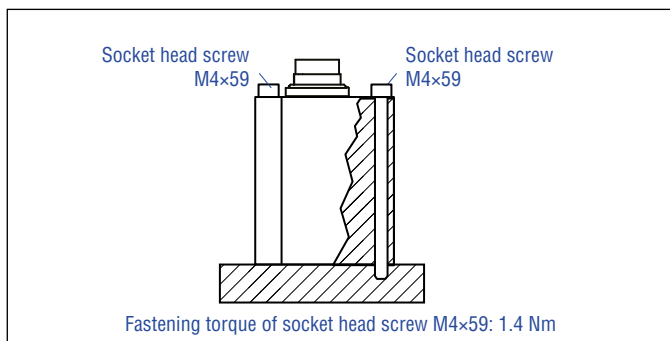

Fig. 14: Mounting with socket head screws M4×59
- Mount the sensor electronics housing by means of 3 non-magnetic socket head screws M4×59. Fastening torque: 1.4 Nm (Fig. 14). Secure the screws, e.g. using Loctite 243, before re-installing.